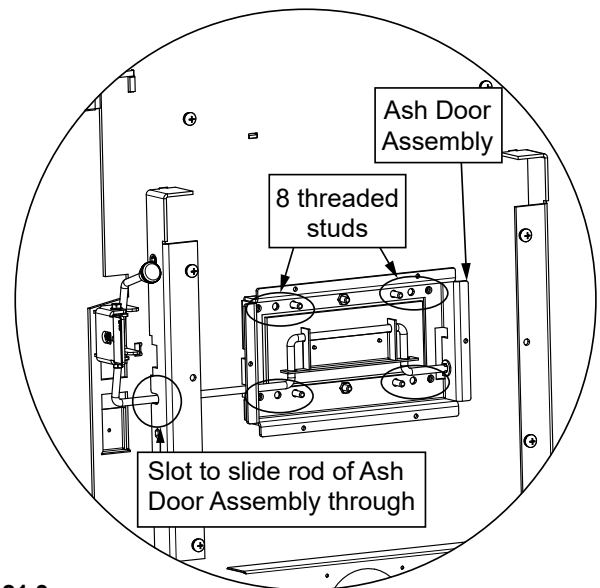

**Figure 21.1**
2. Remove the 2 bricks in the front most part of the firebox (**Figure 21.1**).
2. Remove the 2 bricks in the front most part of the firebox (Figure 21.1 on page 21).